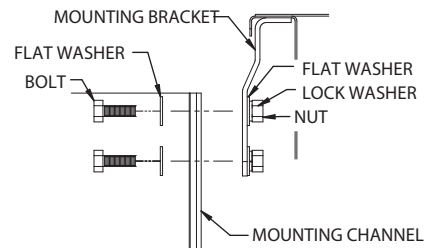

Figure 14 – Attaching Mounting Channel to Mounting Bracket
2. At each hole, attach the mounting channel to the bracket using 3/8" hardware as shown in Figure 14.